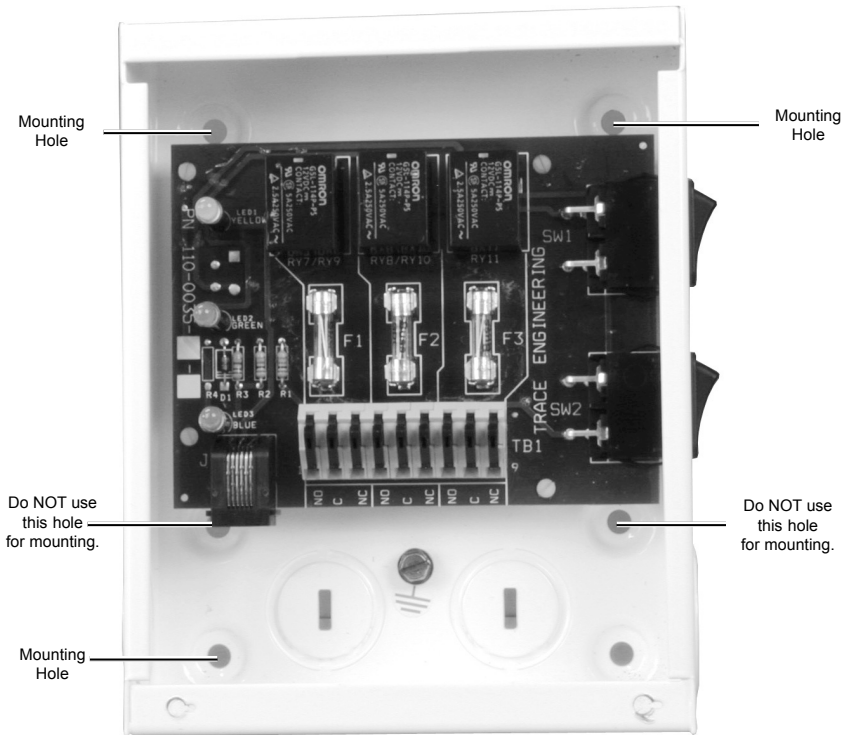

Figure 2-3
- Hold the ALM against the surface to be mounted and use the unit as a template to mark the four hole locations. See Figure 2-3.